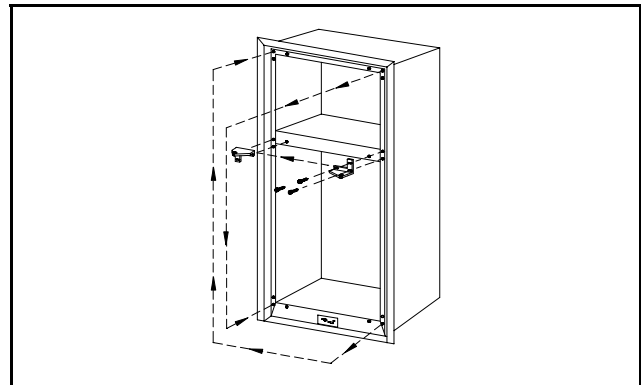

Figure 12
7. Using the #2 phillips screwdriver, remove the top hinge bracket by removing three screws securing the bracket in place. Save the screws for later reassembling (see Figure 12).
9. Using the #2 phillips screwdriver, remove the three screws securing the center hinge bracket. Remove the three screws on the opposite side corresponding to the center hinge bracket (see Figure 12). Relocate the screws in the holes exposed by the removal of the center hinge bracket.
11. Using the #2 phillips screwdriver, remove the bottom hinge bracket by taking out the three screws holding the bracket in place. Save screws for later reassembling (see Figure 12).
13. Reposition the bottom hinge bracket in the top corner of the refrigerator where the hole plugs previously were. Attach hinge bracket using the three screws previously removed. Do not tighten screws (see Figure 12).